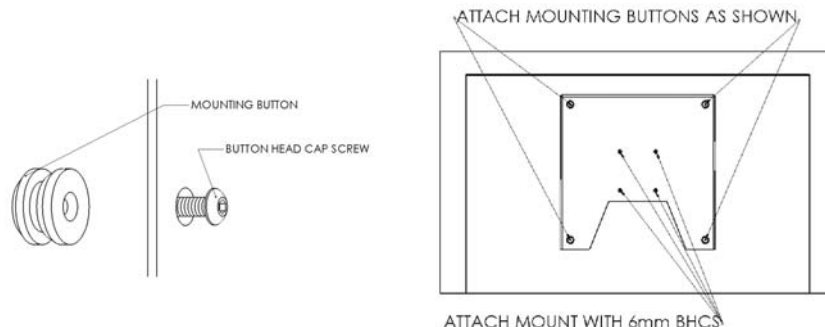

Figure 2
1. Using a 10-24 button head cap screw inserted from the back side of bracket, secure mounting button, to bracket (four places) to holes in outer corners with the screw coming into the bracket from the bend side (see Figure 2).
3. Secure bracket to display using the M6 button head cap screws (see Figure 2).